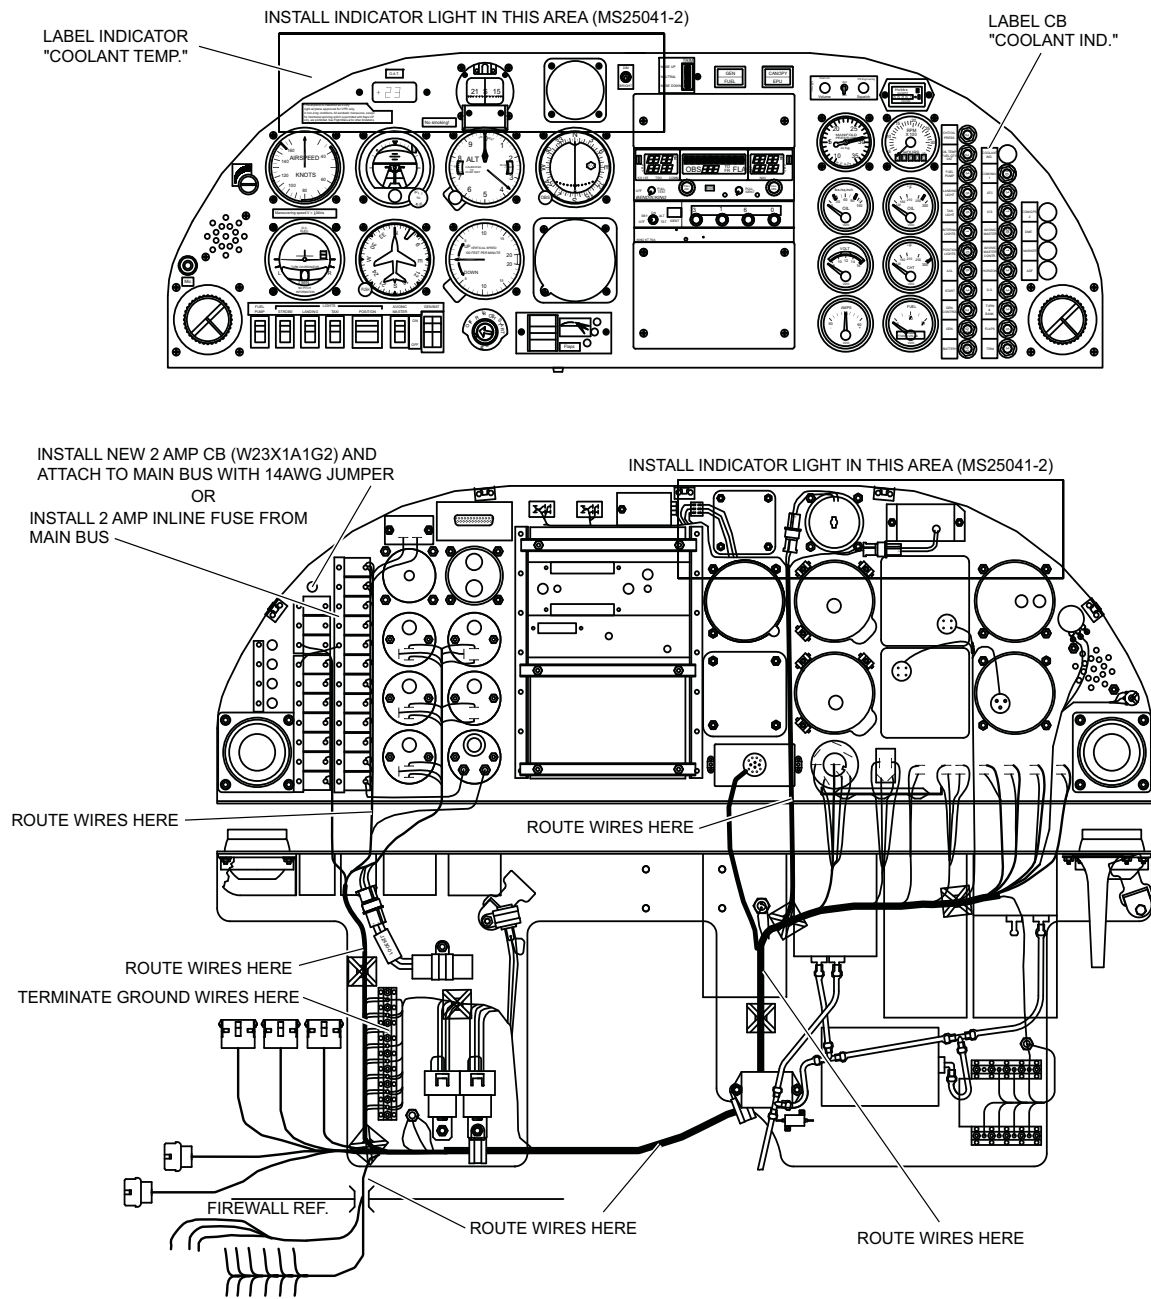

Figure 4 - Instrument Panel Routing
10.3.5 If the circuit breaker panel permits, install a 2 AMP breaker (W23X1A1G2) and connect with a 14 AWG jumper as shown in Figure 4. Label the circuit breaker "Coolant Ind."
10.3.7 Drill a 15/32" hole in the instrument panel as indicated in Figure 4. Install indicator light (MS25041-2). Label the indicator "COOLANT TEMP."